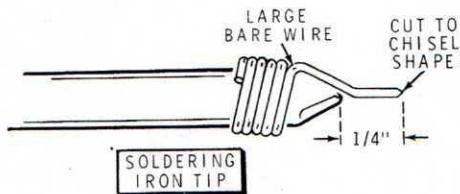

Figure 1
3. If a small wattage, small-tip soldering iron is not available, proceed as follows: Be sure your soldering iron is cool. Wrap the large bare wire (supplied) tightly around the soldering iron tip as shown in Figure 1. Allow approximately 1/4" of wire to extend beyond the end of the soldering iron. Cut the wire end to a